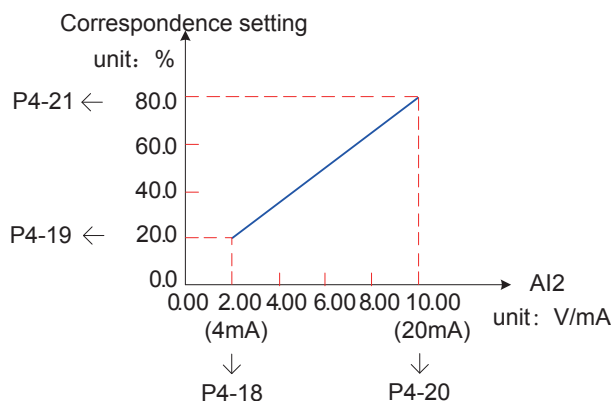

Figure 6-13 AI Curve 2 is configured
- Curves 2 and 3 are set up in the same way as curve 1. The relevant parameters of curve 2 are P4-18~P4-21, and the relevant parameters of curve 3 are P4-23~P4-26. Figure 6-13 corresponds to the settings of AI Curve 2.